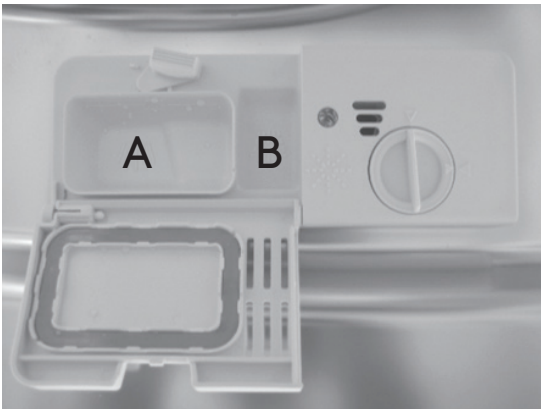

Figure 14- The open dishwasher detergent dispenser.
Step 2 Add the detergent (powder or tablet) into the larger cavity (labelled A in figure 14 below) which is used for the main wash cycle. For more heavily soiled wash loads, you can also add some detergent into the smaller cavity (labelled B in figure 14 below) which is used for the pre-wash cycle.